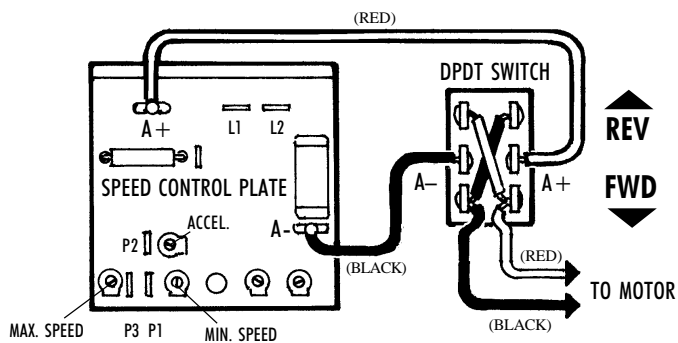

FIGURE 1—Wiring the switch to reverse motor direction. Also shown are lug attachment points and wire colors for the Sherline DC motor.
The modification requires adding a double pole, double throw (DPDT) switch to reverse the A+ and A- leads. The switch should be of at least 6 amp capacity. Switches of this type can be purchased at most electronics stores or from electronic component catalogs. The Radio Shack part number for a switch we have used is 275-663B. It is called a "mini toggle DPDT 6A @ 125 VAC". See Figure 1 for the proper way to wire the switch to accomplish this.
2. Solder the crossover wires from corner to corner on the switch terminals as shown in Figure 1. Cut the wires as short as you can to make this connection as compact as possible.
3. Solder ends of black and red motor wires to end terminals of switch as shown in Figure 1.
4. Solder new red and black wires to side (A+ and A-) terminals on the switch as shown in Figure 1. Crimp or solder on new female connectors to these wires.
5. Connect these to the A- and A+ terminals on the speed control board. (See Figure 1 for locations.)